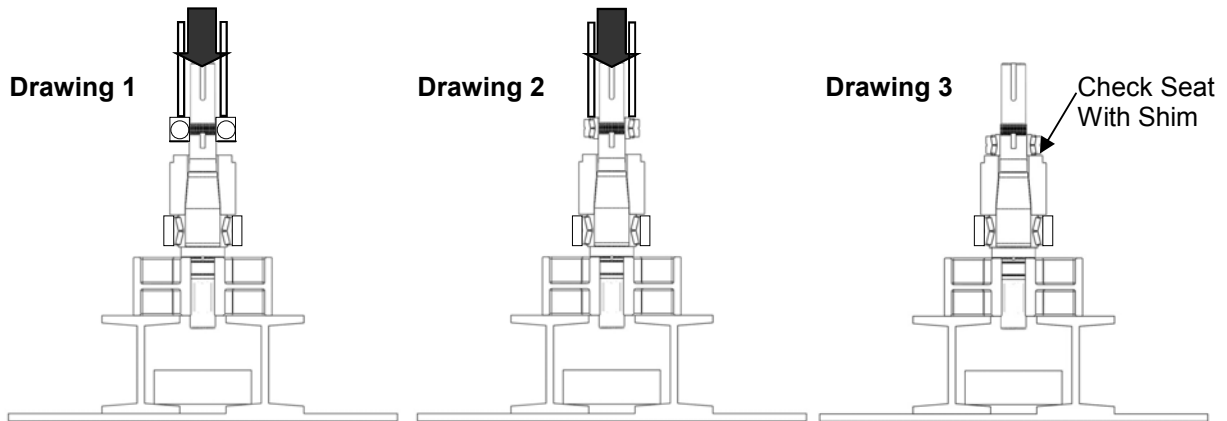

Figure 37: Pressing Rear Bearing onto Shaft
- For pump models with single ball bearings apply a light coat of lubricant on the shaft. Open the new rear bearing assembly and place it over the shaft above the bearing spacer with the shielded side of the bearing facing the spacer (Figure 37, Drawing 1). Press the bearing on by pressing only on the inner race.
- For pump models with tapered roller bearings, apply a light coat of lubricant on the shaft. Open the new rear bearing assembly and do not interchange any parts. Place the rear bearing over the shaft above the bearing spacer (Figure 37, Drawing 2). Reference Table 5 for the required force (in tons) needed to press the bearing onto the shaft. Using a sleeve that rests on the inner cone of the bearing and rides over the shaft, press the bearing on until it seats against the spacer.
Make sure the bearing is rested on the bearing spacer using a shim (Figure 37, Drawing 3).